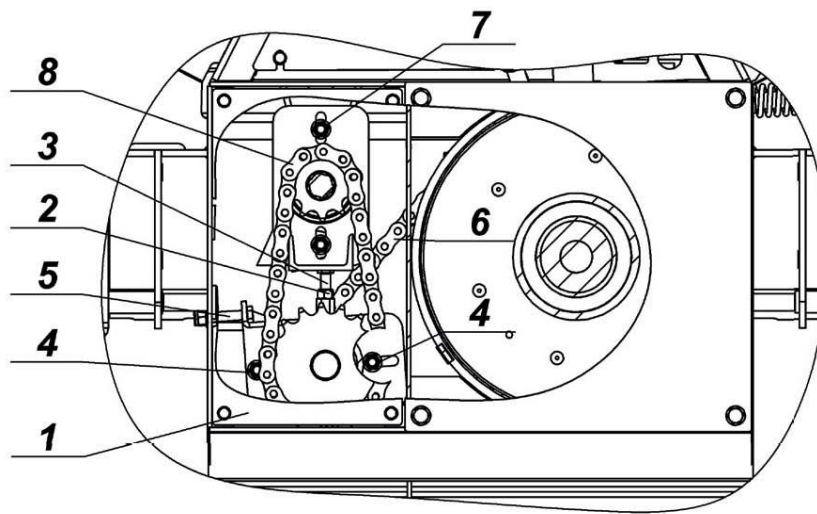

Figure 13
First loosen the nut and the screw (pos. 2, figure 13), which are used to fix the housing. Then start tensioning the chain (pos. 3) with the screw (pos. 4). Turn the screw to the right, until you reach an appropriate tension of the chain. At the same time, you must still hold the tightening nut (pos. 5). The chain is correctly tensioned when it can still oscillate for approx. 3 to 4 mm in the transverse direction. Tighten the retaining screws (pos. 2) which you have loosened before.